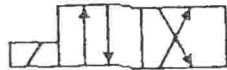
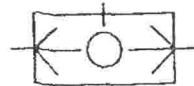

Fig. 1
Fig. 2
5. Identify the following elements represented in Fig.1 and Fig.2.